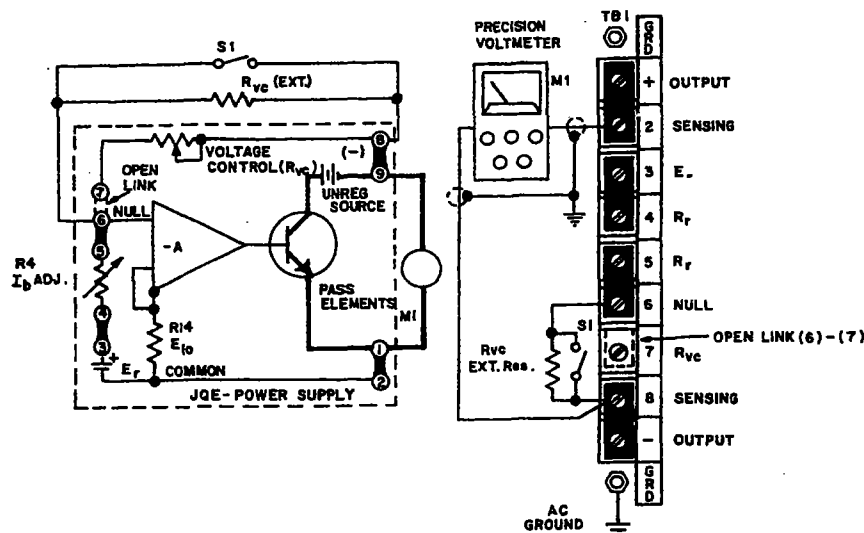

FIG. 3-5 CONNECTIONS FOR PRECISION PROGRAMMING RATIO ADJUSTMENT
- 3-14 Again referring to equation (3), we see that if $R_{VC} = 0$ (shorted out), the output voltage should be zero. A small negative offset voltage (in the millivolt range) exists however under this condition at the output.
- 3-16 PROCEDURE, PRECISION PROGRAMMING RATIO ADJUSTMENT (Refer to FIG. 3-5).
- b) Connect calibration set-up as shown in FIG. 3-5 and connect the JQE power supply to the a-c power line.